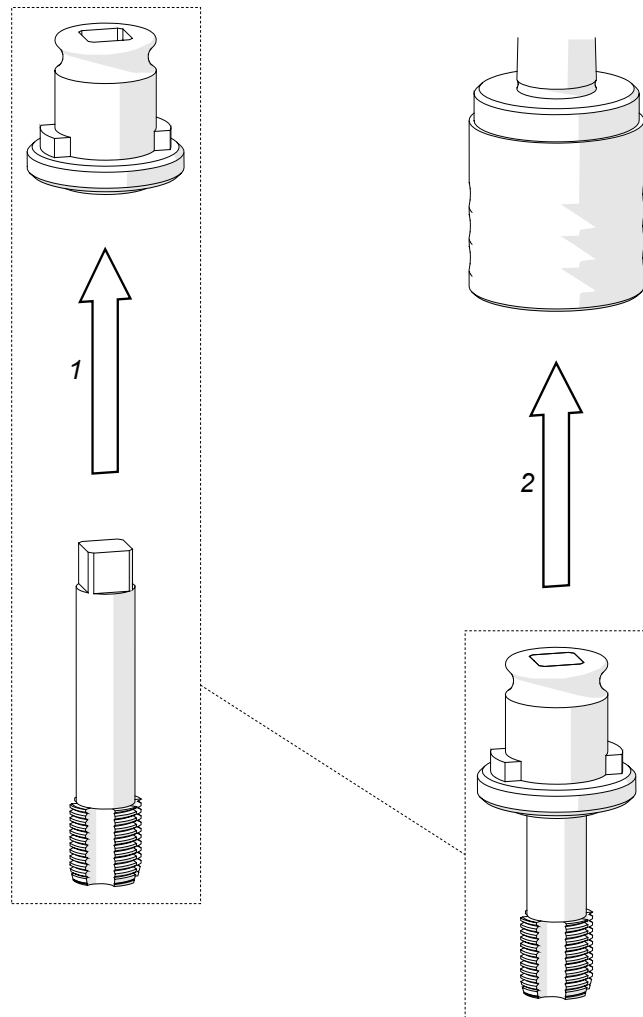

Fig. 7. Installing the screw tap
Install the tap chuck with axial compensation as described before. Next, insert the entering tap (tap no. 1) into the proper adapter (1, Fig. 7), and then install the adapter into the tap chuck (2). Install screw taps with a MT3 shank through a MT sleeve.